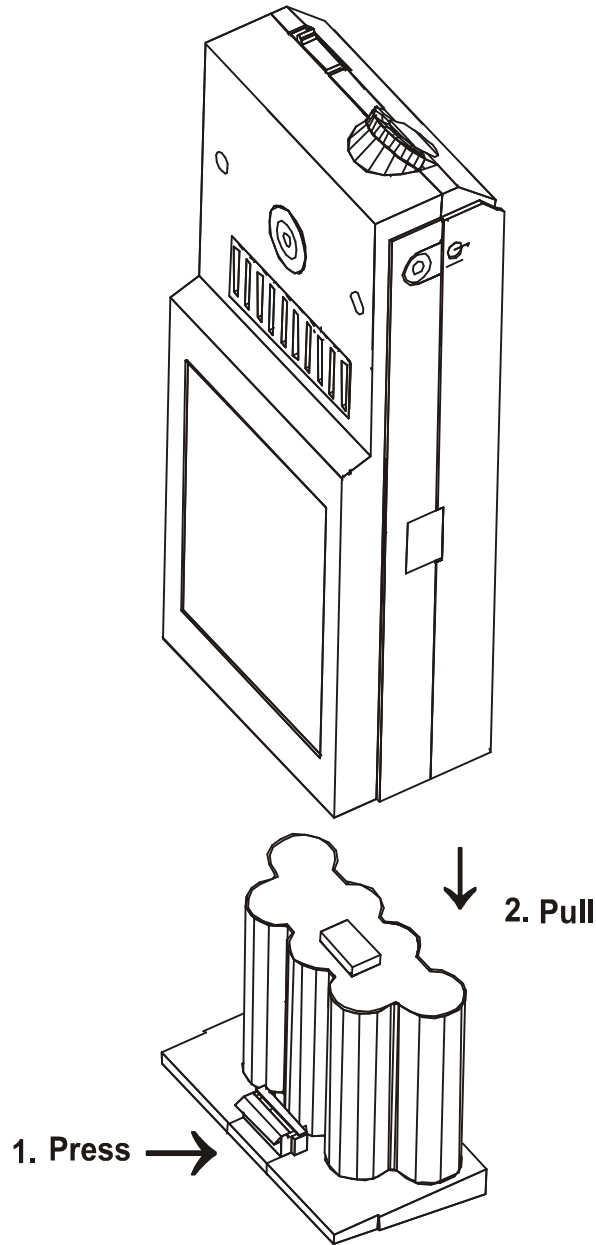

Figure 7-1: Removing the Battery Pack
1. Be sure the monitor is disconnected from mains power and remove the battery pack from the monitor; push the release button at the bottom of the monitor and pull out the battery pack as shown in Figure 7-1.